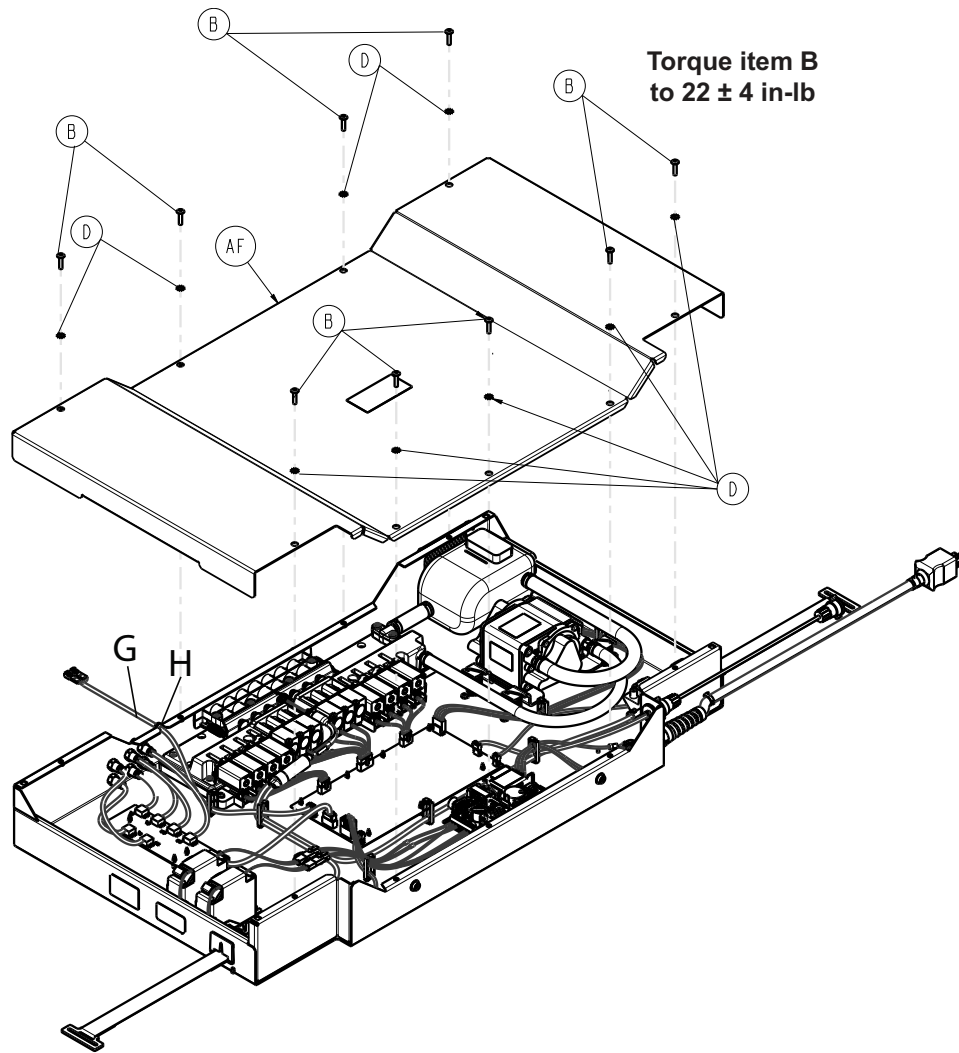

Figure 11 – Foot box cover
13. Using a T15 Torx driver, remove the nine ground screws (B) and nine star washers (D) (Figure 11). Save the ground screws and star washers.